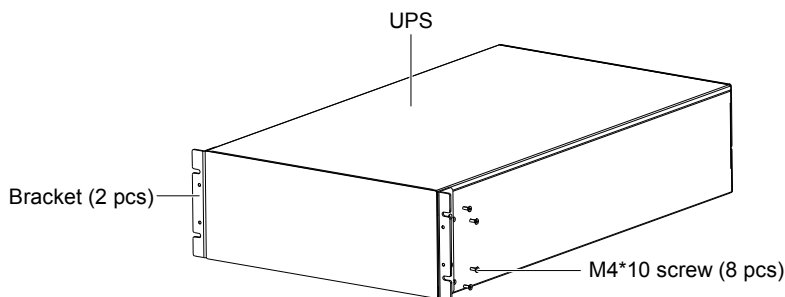

Figure 2-2 Installation of brackets
1. Use eight M4*10 screws to fix the two brackets (accessories) respectively on both sides of the UPS front panel through the installation holes, as shown in Figure 2-2.